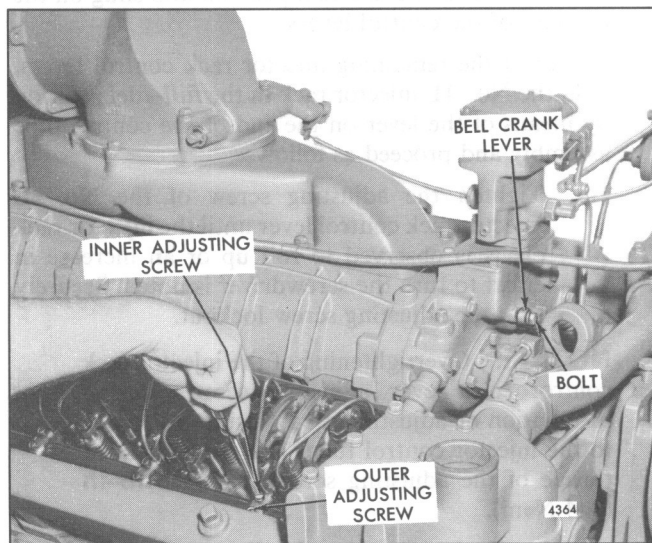

Fig. 2 - Positioning No. 1R Injector Rack Control Lever
5. Place the bolt (removed from the lower end of the vertical link) through the bell crank and into the recessed hole in the drive housing (Fig. 2).
6. Adjust the No. 1R injector rack by tightening the adjusting screw until the injector rack clevis is observed to roll up or an increase in effort to turn the screwdriver is noted (Fig. 2). Tighten the screw approximately 1/8 of a turn more and lock securely with the adjusting screw locknut. This will place the No. 1R injector rack in the *full-fuel* position.